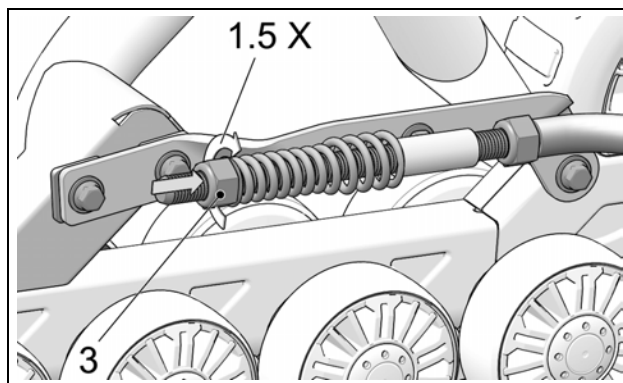

Figure 14
- Turn nut (3) until it comes in contact with the spring, then compress the spring by turning the nut 1 1/2 turns. See Figure 14.